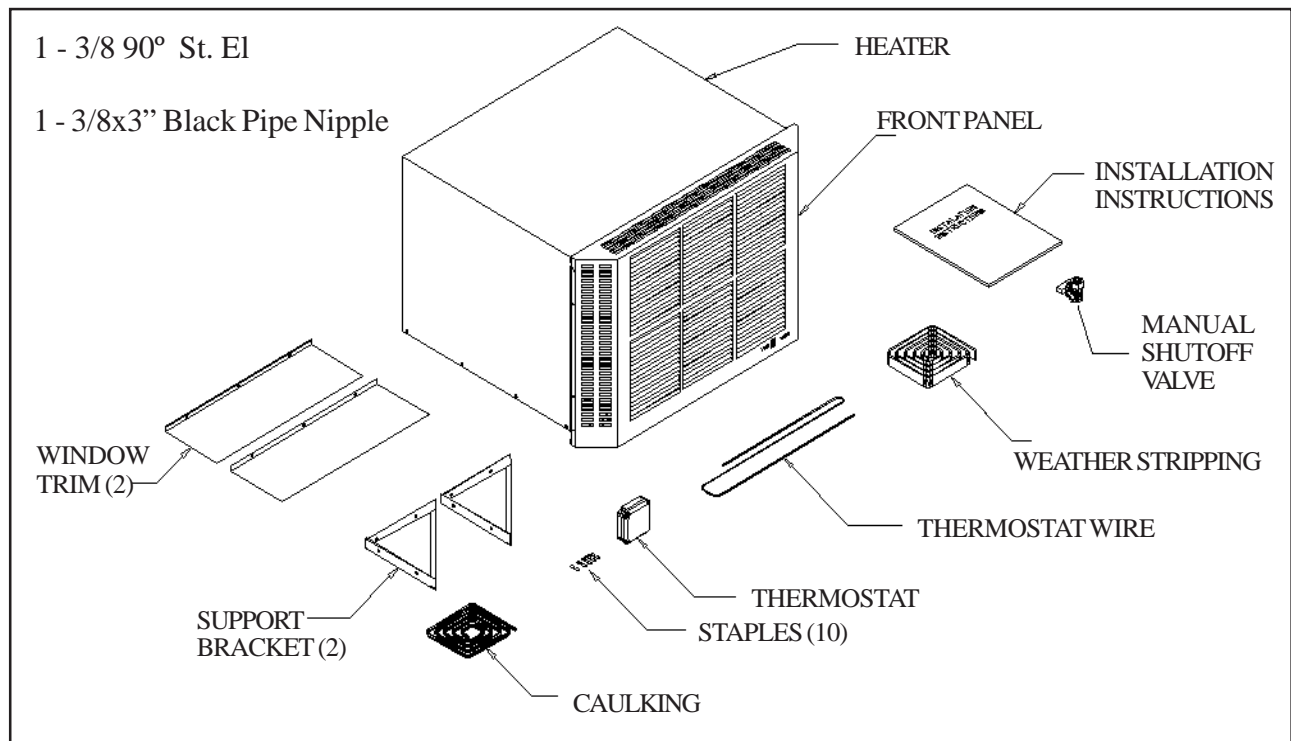

FIGURE 1
- b) Make sure all components illustrated in Figure 1 have been shipped. You should have received: